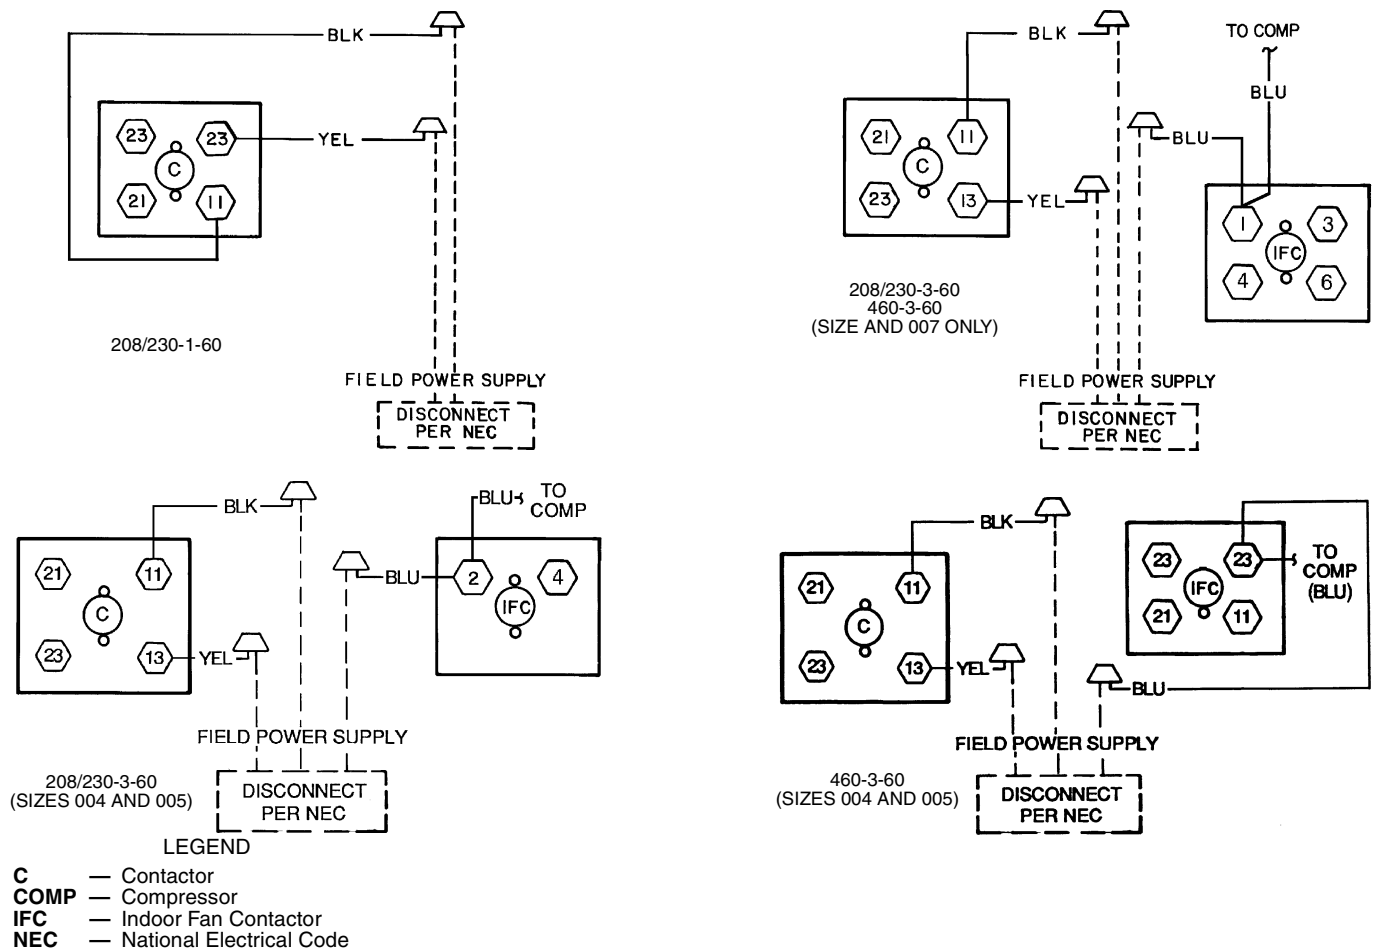

Fig. 6 — Power Wiring Connections
2. Install power lines to terminal connections as shown in Fig. 6.